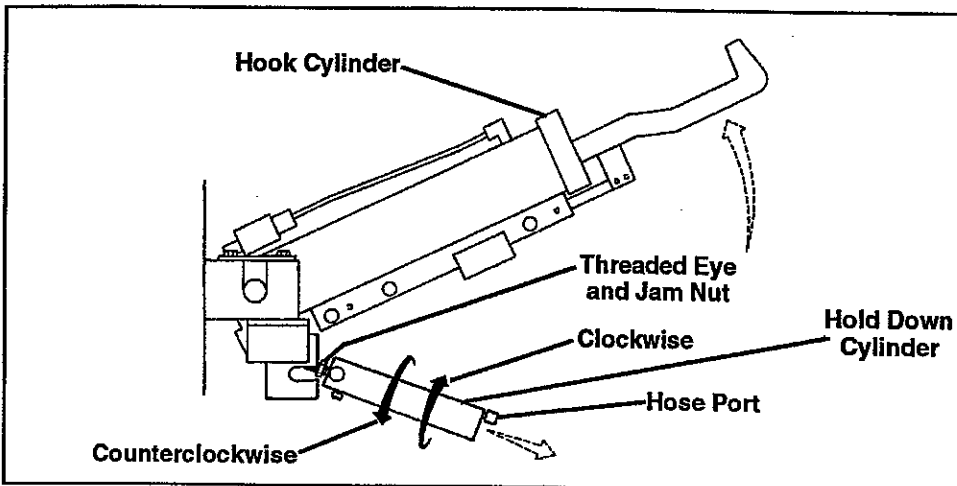

Fig. 25. Adjusting Upper Vertical Limit of Operating Range
- A. Locate the hook cylinder assembly and the hold down cylinder assembly. See Figure 25. The length of the threaded eye on the hold down cylinder will determine the upper vertical limit of hook movement.